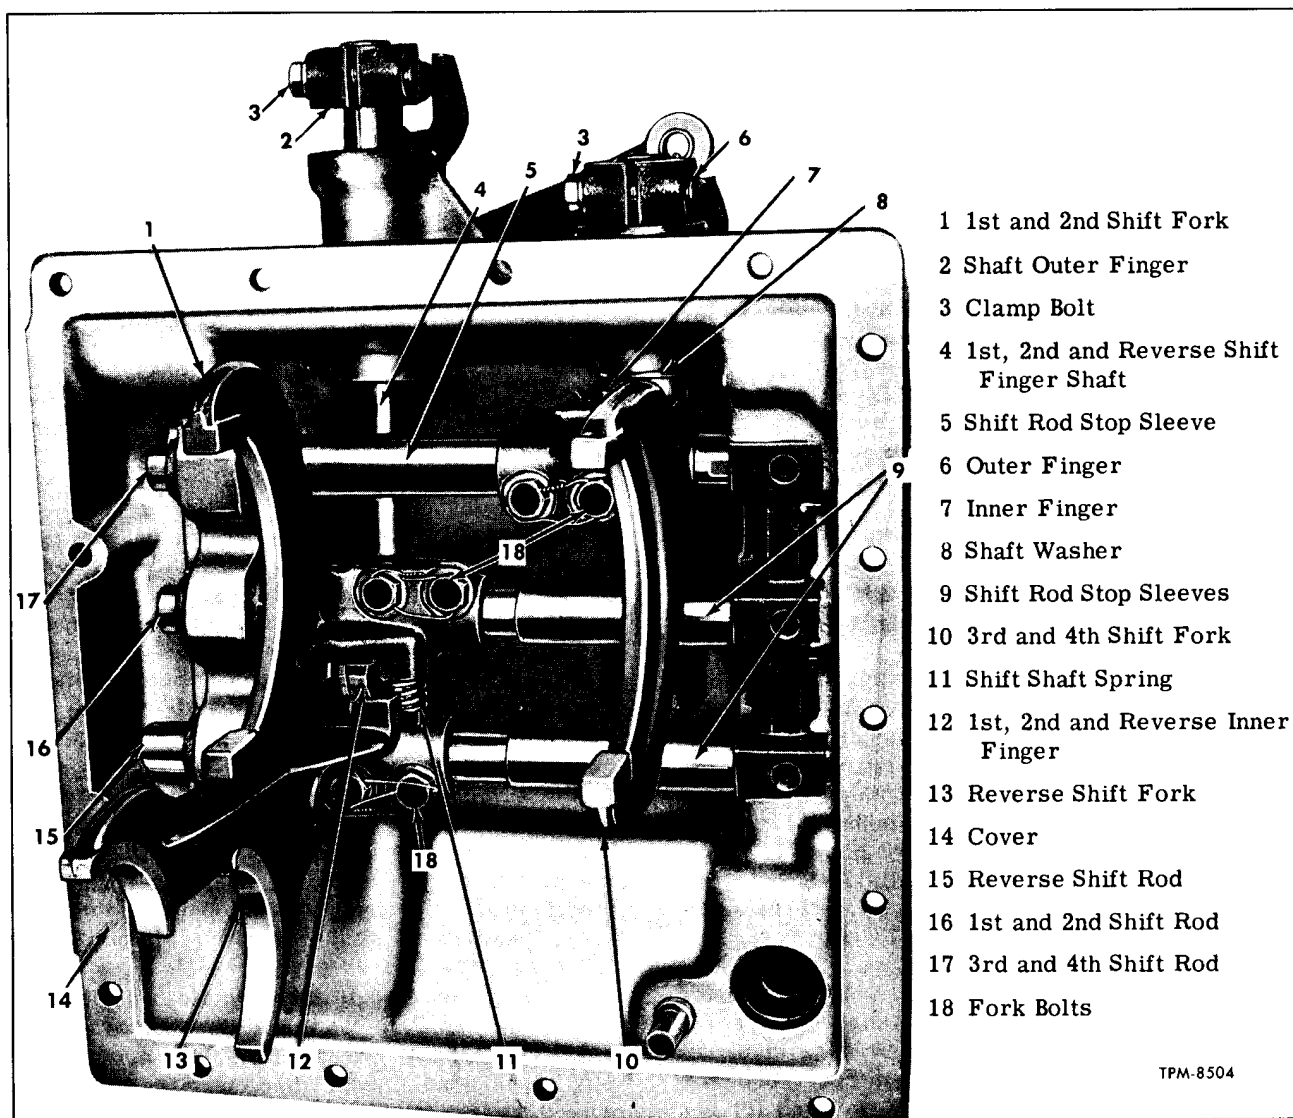

Figure 15—Transmission Cover With Forks and Shifting Mechanism
Key numbers in text refer to figure 15 unless otherwise indicated.
Key numbers in text refer to figure 15 unless otherwise specified.
4. Place one interlock in hole between rods (16 and 17). Install spring, plunger, and poppet ball in center poppet hole, then install 1st and 2nd shift rod (16), stop sleeve (9), and shift fork (1) in position shown in figure 15. Inner finger (12) must
2. Shift forks in cover (fig. 15) to neutral position, then carefully lower the cover assembly into place with forks entering grooves in respective sliding clutches.